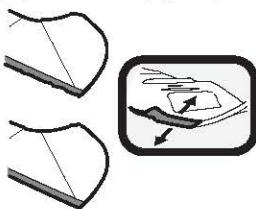

Figure 51
- To properly sharpen the cutting blades, remove equal amounts of metal from both ends of the blades along the cutting edges, parallel to the trailing edge, at a 25° to 30° angle. Always grind each cutting blade edge equally to maintain proper blade balance (Figure 51).